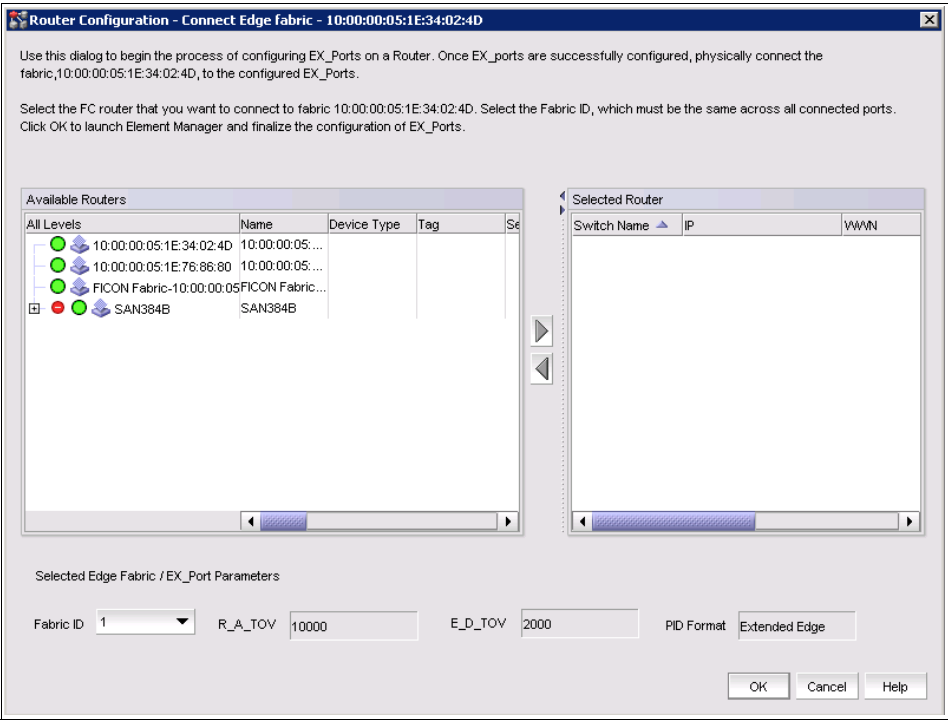

Figure 9-23 Connect Edge Fabric dialog box
2. Select **Router Configuration option**. The “Router Configuration - Connect Edge Fabric” dialog box opens, as shown in Figure 9-23.